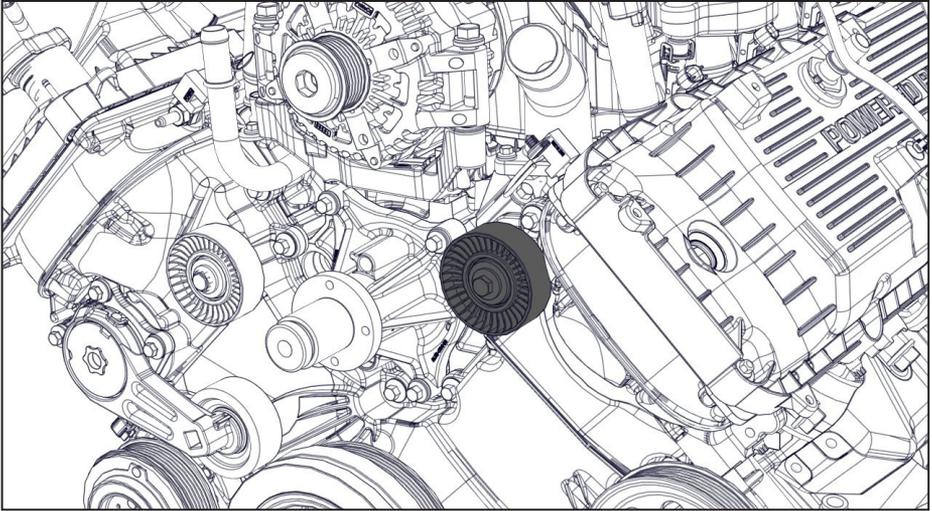

Figure 7 — Remove idler
- Remove the idler mounted on the driver side head (Figure 7).